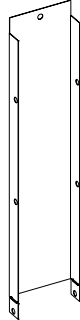

Figure 8
1. Locate the three steel middle mounting brackets under the burner cover. **See Figure 8.**